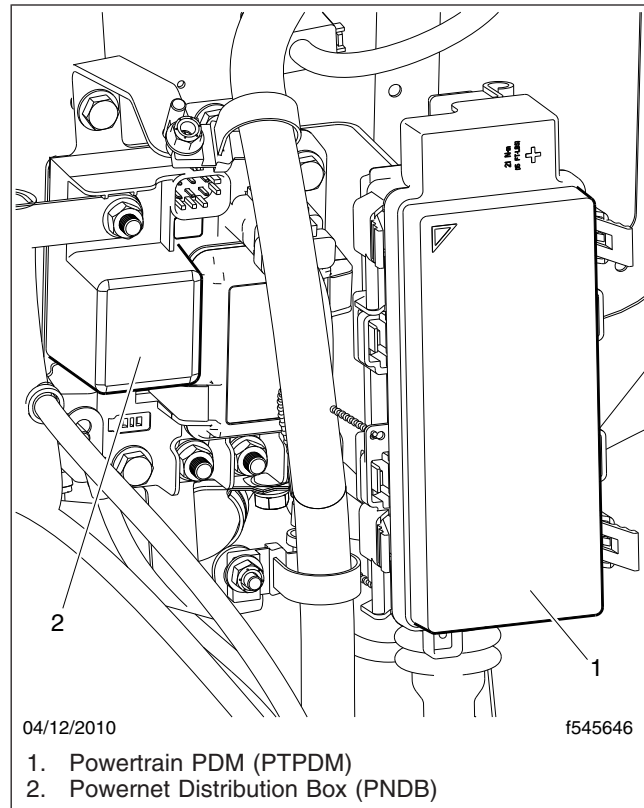

Fig. 23.11, Visible Engine Wiring
6. Inspect visible engine wiring for damage or looseness. See Fig. 23.11. Check for loose wiring, chafed insulation, and damaged or loose hold-down clamps.